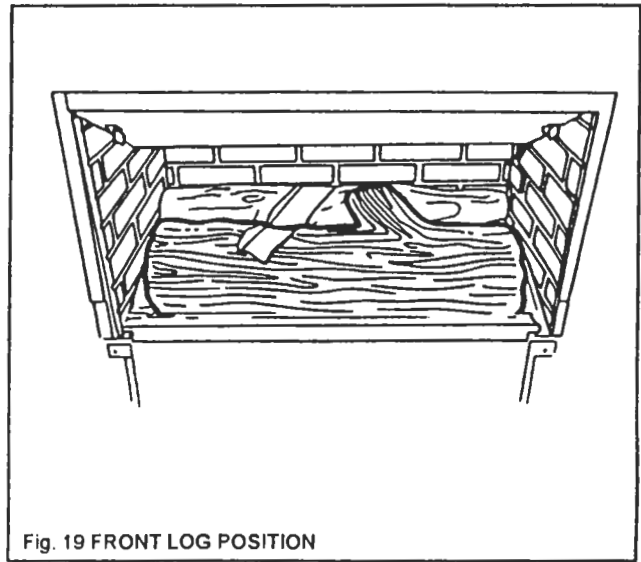

Fig. 19 FRONT LOG POSITION
6.4. Place the front log in the retaining cradle between the rear and front burner rails (fig. 19).